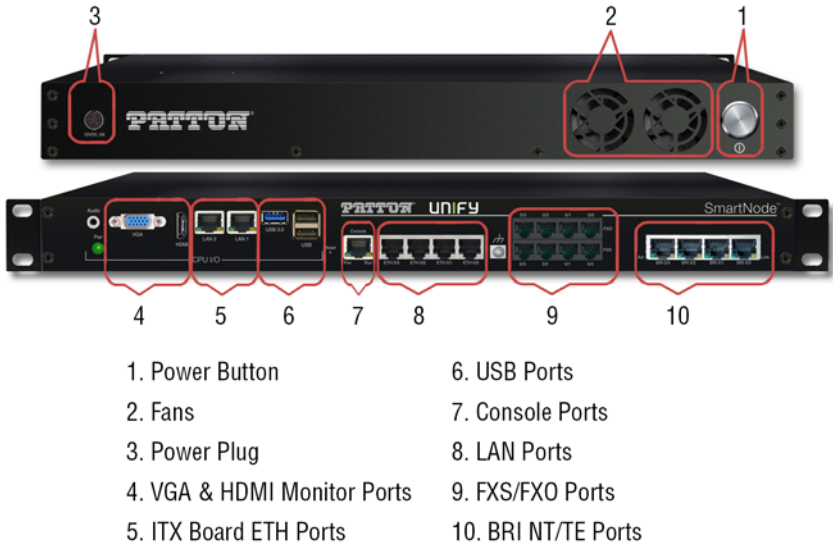

Figure 1. SmartNode OpenScope Business Appliance basic connections
1. Plug the power adapter into the power connector on the back of the unit (see figure 1 on page 4).
5. Push the power Button at the back of the unit once (see figure 1 on page 4).